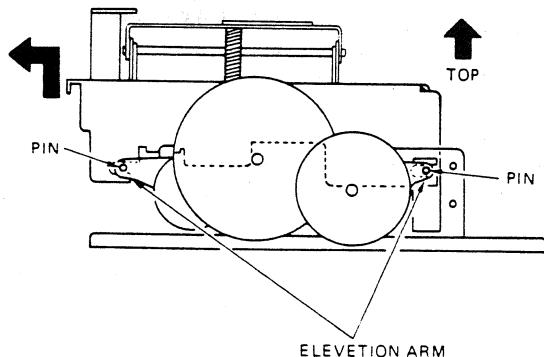

Fig. 11 REAR VIEW
- 2) The turntable is attached by 4 elevationarm pins. Move the turntable ass'y to the left viewed from the back to release the pins and remove the assembly. (Fig. 11)